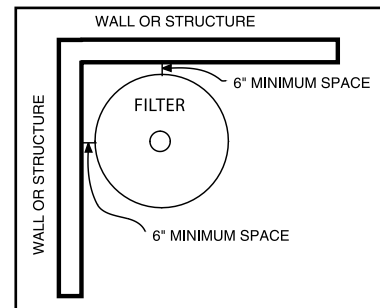

Figure 1.
3. Provide sufficient clearance around the filter to permit visual verification that the clamp is properly installed, see Figure 1.